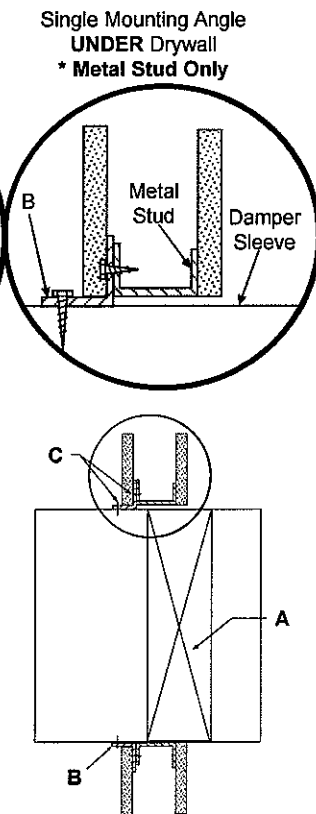

Figure 3: Under Drywall Installation
- B.** Single-side mounting angles shall be a minimum of ¾" x 1-½" tall x 20 gauge (19 x 38 x 1.0) steel. For metal stud partitions only, the single-side mounting angle may be directly attached to the metal stud prior to the installation of the drywall. See Figure 3.